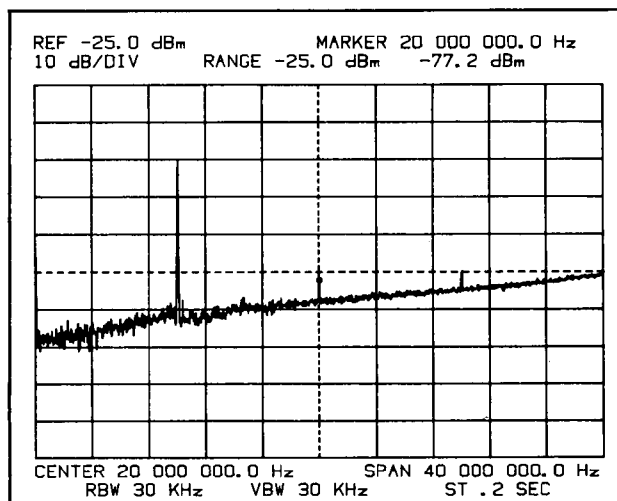

Figure 5-36. Calibrator Symmetry Adjustment (A1R52)
- c. Slowly replace the cable until a display similar to Figure 5-36 is obtained. When this display is obtained, do not push the cable in any further.